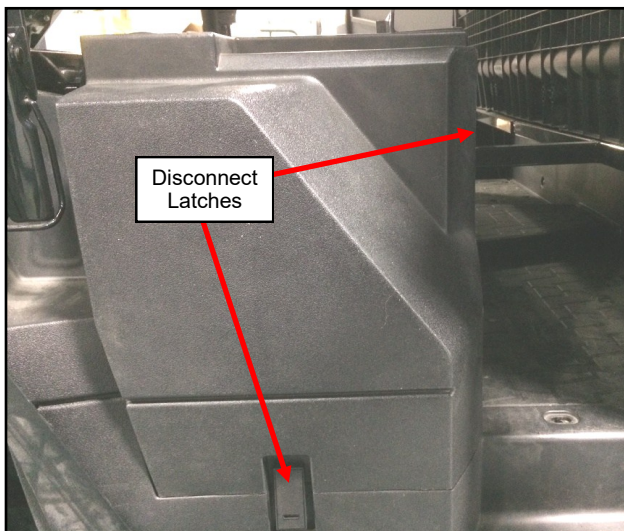

Fig. 2.3 (Remove Battery Cover, Pro-FXT)
- 2.3 Disconnect the (2) small latches found on either side of the battery cover and set aside the cover per fig. 2.3.